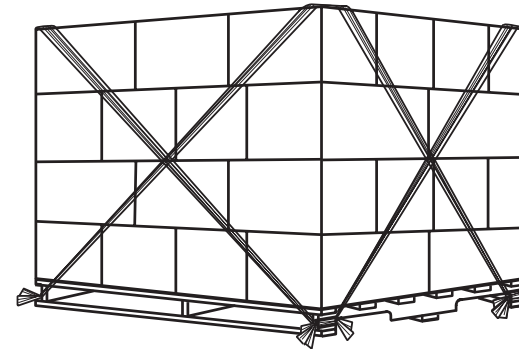

FIGURE 2
2. **ROPING:** (Refer to Figure 2) - Tie knot in film and secure under pallet. Unwrap one pallet width of film. Use your free hand to pull on the rope (film) to provide stretch. Now pull up and over top corner box. Pull down and stretch; secure to pallet. Follow procedure on remaining corners.\*